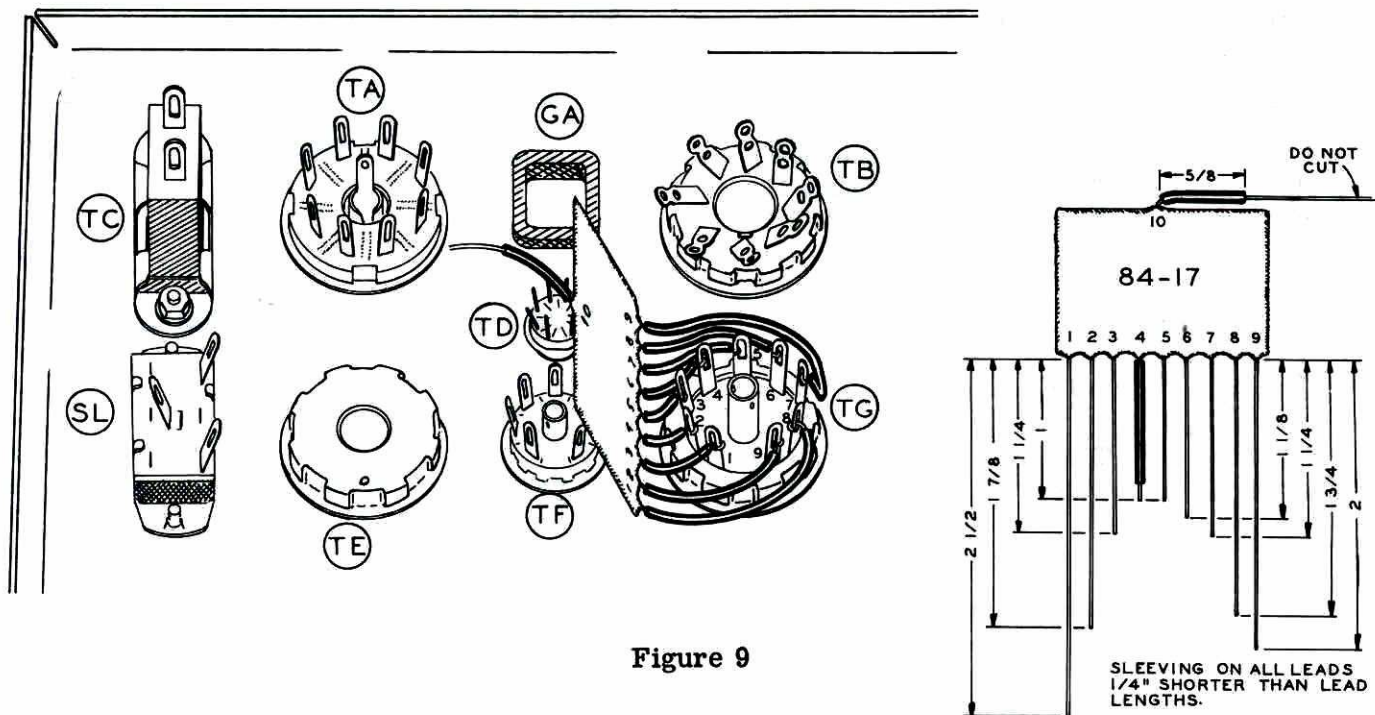

Figure 9
- () Identify the two P.E.C.'s (#84-17 and #84-18) and trim the leads to the lengths indicated. DO NOT cut the common leads. Cover each lead with sleeving, as shown in Figures 9 and 10.